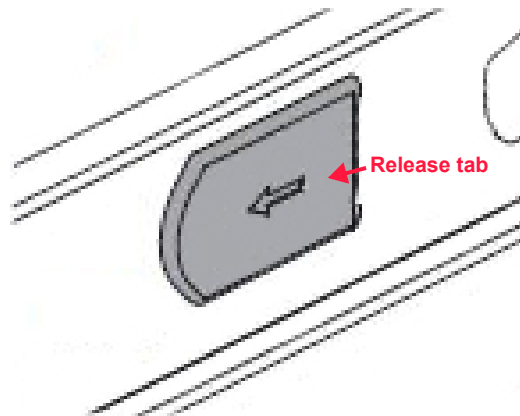

Figure 2.12 Rail release tab
2. Pull the release tab on the inner chassis member rail forward as demonstrated in Figure 2.12 on page 18.
5. Press the release tab shown in Figure 2.12 on page 18 and push the enclosure fully into the rack.